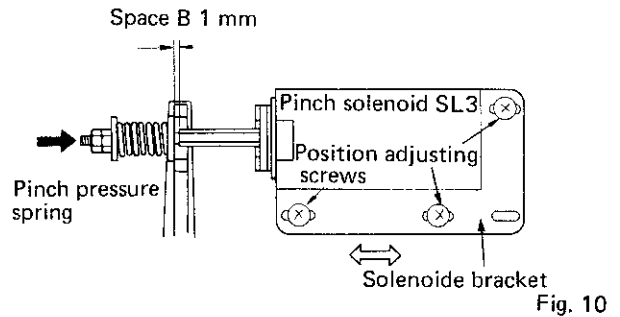

Fig. 10
3. At this time, check that space B in Fig. 10 is 1 mm.